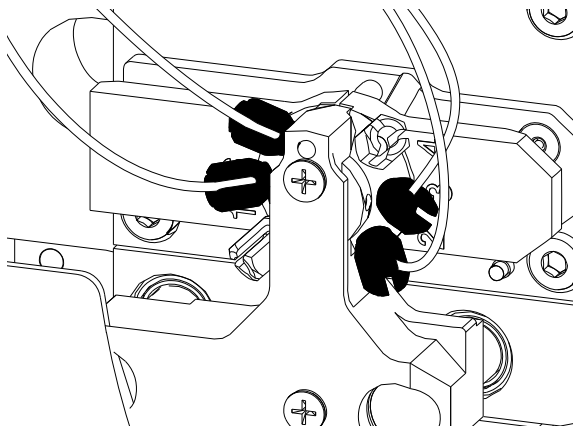

Figure 40
- 5 Loosen the slotted PEEK fitting using the Cube wrench and pull the capillary out. See Figure 40.